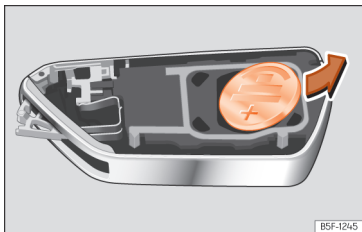

Fig. 72 Vehicle key: removing the battery.
- Remove the battery from the compartment with a suitable fine object >>> Fig. 72.
- Insert the new battery and press it into the battery compartment >>> ①.